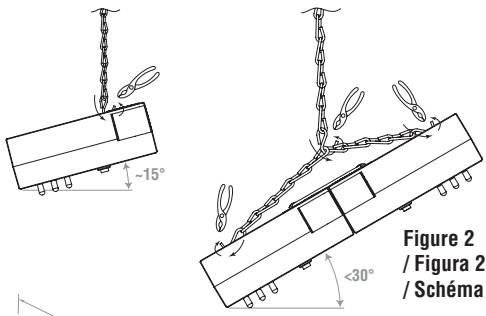

Figure 2
- Determine if product will be installed using Plug-In Installation Method (see Figure 1) or Direct Wire Installation Method (see Figure 2).
Note: For projection of light onto a larger surface area (see Figure 2):